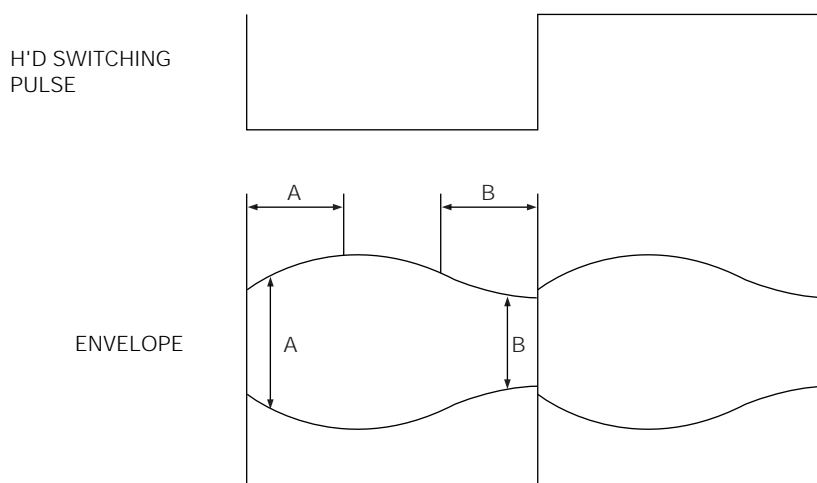

Fig. 2-7 Adjustment Points
4. If the section A in Fig. 2-7 does not meet the specification, adjust the S-guide roller up or down.
5. If the section B in Fig. 2-7 does not meet the specification, adjust T-guide roller up or down.